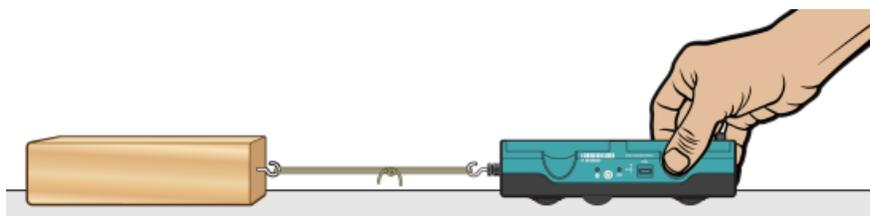

Figure 1
3. Set the Sensor Cart on the tabletop in the position shown in Figure 1. Making sure nothing is touching the hook, click or tap the Force meter and choose Zero to zero the force sensor.
4. Get a wooden block that has a hook on one end. Connect the wooden block to the Sensor Cart using the loop of string (see Figure 1). Use a paper clip if you do not have a loop of string.
5. Slowly pull the wooden block across a piece of wood with a smooth surface. Hold the cart by its sides and pull it toward you (see Figure 1). Once the wooden block is moving at a steady rate, click or tap Collect to start data collection. Continue pulling the wooden block until data collection is complete.